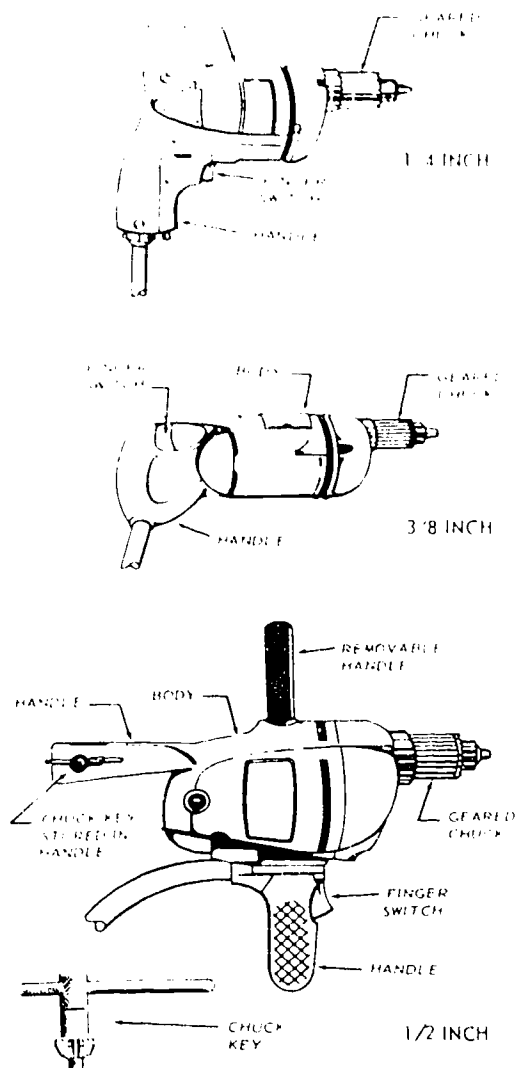

Figure 2-6. Portable electric drills.
**Portable Electric Drills.** Portable drills are manufactured in several sizes which include 1/4, 3/8, and 1/2 inch, as illustrated in figure 2-6. The 1/4-inch drill is used extensively when drilling holes for rivets, sheet metal screws, and machine screws. A 3/8- or 1/2-inch drill should be used to drill holes larger than 1/4 inch. Portable electric drills are often used on jobs away from the shop, so be sure that an adequate electrical ground connection is made before beginning the drilling operation.